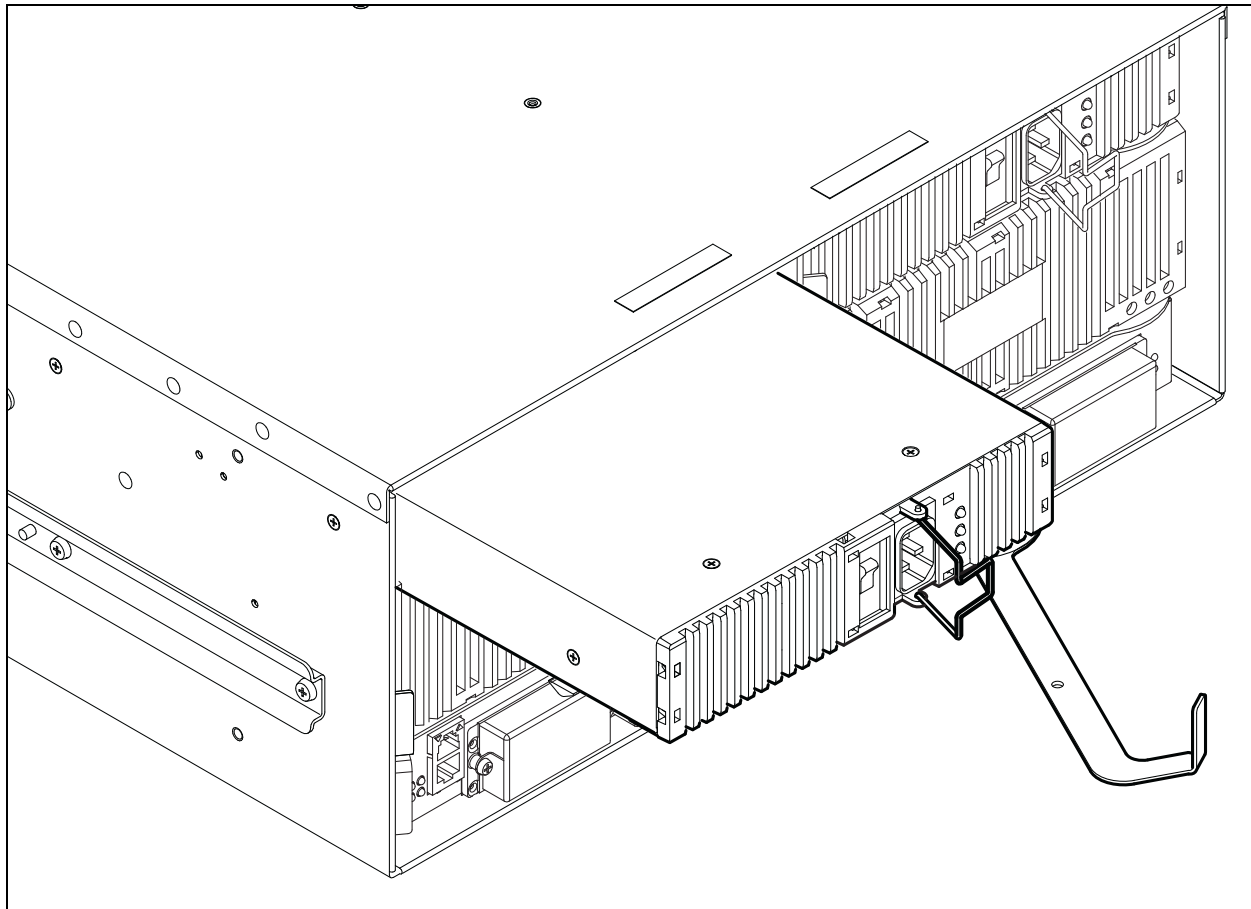

Figure 5-4 Removing a Power Supply Blade
4. Rotate the latch to the full open position. Pull the Power Supply blade by the latch to disengage the blade from the midplane connector as shown in Figure 5-4. Carefully slide the Power Supply blade out of the chassis.